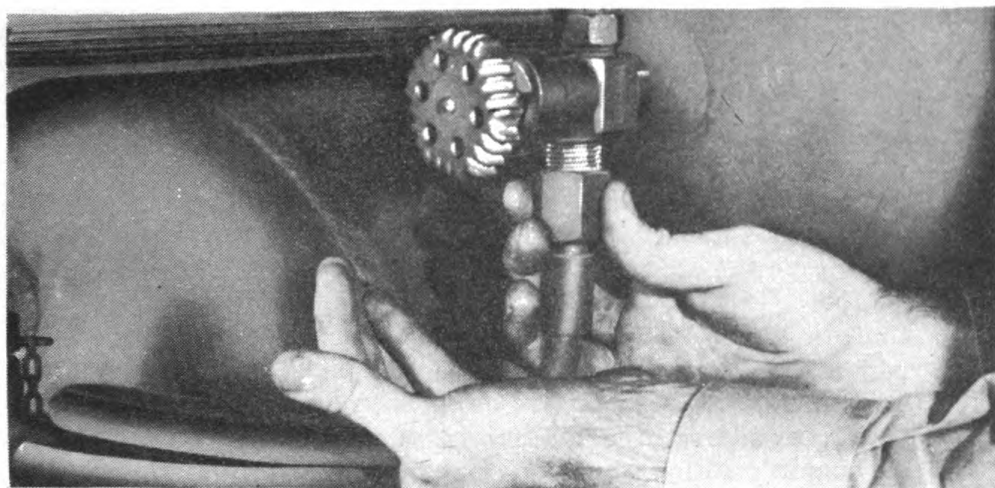

Fig. 22. Screwing loop to pressure container valve. Exercise special care not to force and damage the fine threads.
h. Loop. (1) Attach loop to union on top of pressure cut-off valve. Be sure synthetic rubber washer is in the recess. Make union nut hand-tight only.
(2) Remove thread protector cap from pressure container valve.
(3) Slide pressure container forward or backward and rotate it until male connection on loop centers with recess of pressure container valve.
(4) Carefully screw loop nut on valve thread (fig. 22). Because threads are fine and easily damaged, care must be taken so that the nut screws on freely and does not require forcing. Do not tighten with wrench until next step is completed.
(5) Tighten the two pressure container straps by screwing the four nuts tightly on the two studs on the straps. Tighten nuts until pressure container straps are firm and flat against pressure container.
(6) Using wrench, tighten coupling nut which connects loop to pressure container valve.
(7) Tighten, with a wrench, the large hex nut which connects loop to pressure cut-off valve.